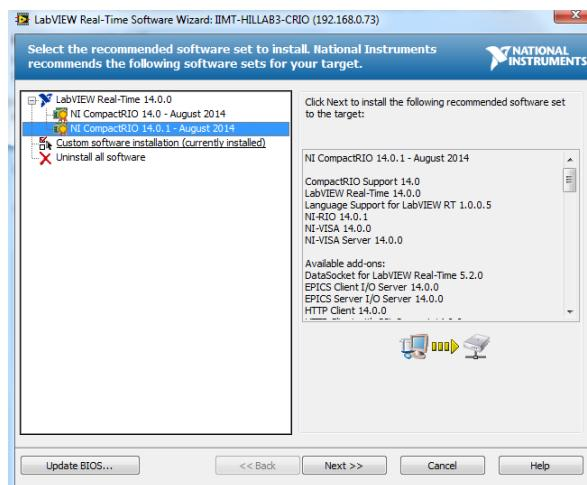

Figure 28: NI MAX - Software Update 1
4. A new window will now open. Choose the option that matches your LabVIEW/Veristand edition (in our case 14.0 or 14.0.1) under LabVIEW Real-Time 14.0.0 and click next. See Figure 28